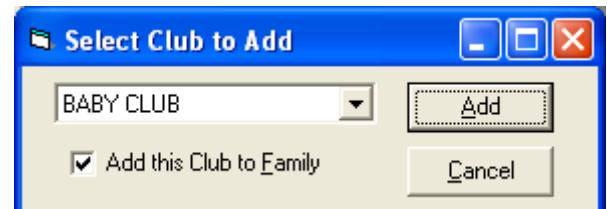

Figure 383
- Selecting the '**Add**' button prompts you to select the club to add to the person (see Figure 383).